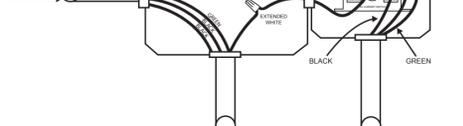

Fig. 4
Refer to the appropriate diagram for dryers that have a plug-in (Figure 3) or are hardwired into an electrical box. (Figure 4)
5. Disconnect the White common (neutral) conductor from the dryer outlet (Figure 3) or disconnect the White wire in hardwired installations (Figure 4) and extend this conductor with a length of wire that is identical to the gauge and temperature rating of the White conductor.
6. This extended White wire will be run into the Current Switch 4" x 4" box and through the hole in the Current Switch and then return to the terminal on the dryer outlet (Figure 3) or the White wire going to the clothes dryer. (Figure 4).